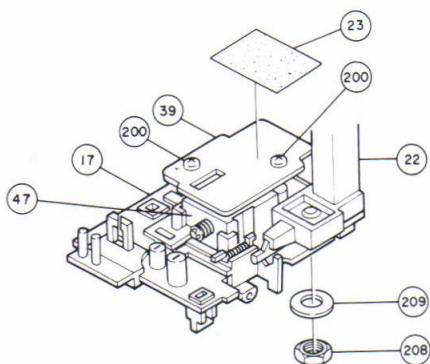

Fig. 7
#### (D) Removal of Tonearm (22) (Figure 7)
1. Remove the Sheet (23) on the Sensor PWB Ass'y (39) secured to the Bracket Ass'y (17).
2. Use a soldering iron to detach the lead wire coming from the Tonearm (22).
3. Remove the two Screws (200) securing the Sensor PWB Ass'y (39).
4. Remove the solder from the Solenoid Coil (47) terminal.
5. Remove the Sensor PWB Ass'y (39).
6. Remove the Hexagonal Nut (208) and Washer (209), then remove the Tonearm (22).